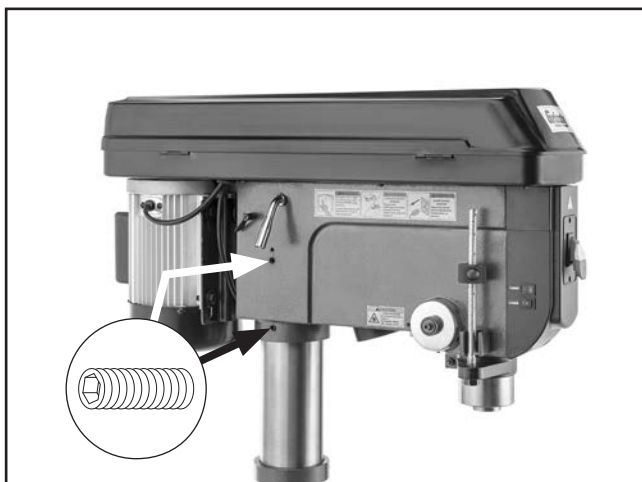

Figure 20. Headstock placed on column and location of headstock set screws.
8. With lifting help, carefully lift headstock and slide it onto column (see **Figure 20**).
10. Adjust headstock on column until it is directly over center of base, as indicated by plumb bob, then secure headstock by tightening (2) set screws shown in **Figure 20**.